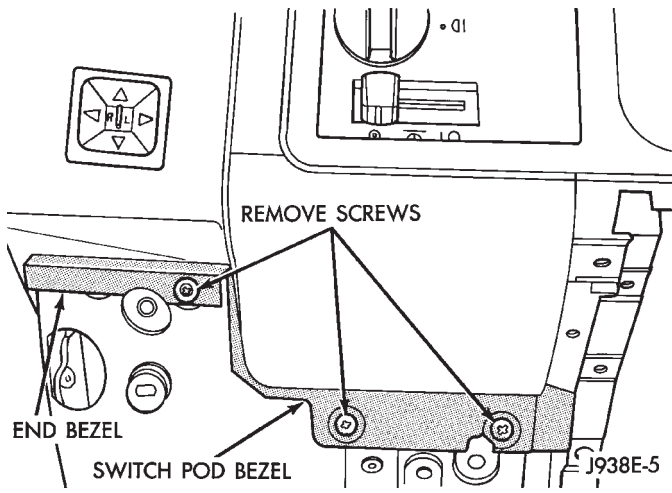

Fig. 11 Remove Screw Holding Bottom Of Bezel
(16) Remove 1 screw holding bottom of bezel (Fig. 11). Remove the mirror switch bezel far enough to unplug connector.